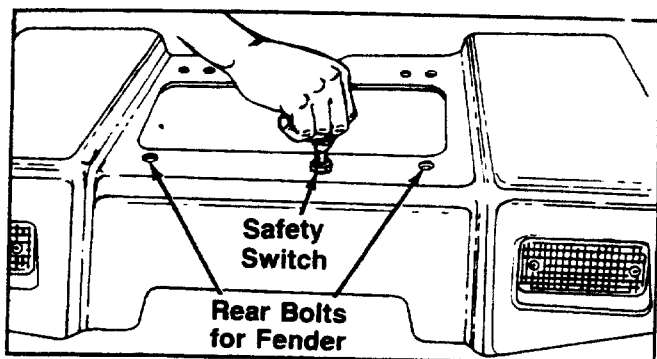

FIGURE 5.
8. Remove the safety switch cover, then remove the lead connecting the switch to the harness. Remove the switch from the fender. See figure 5.
9. Remove the two rear bolts holding the fender assembly. See figure 5.